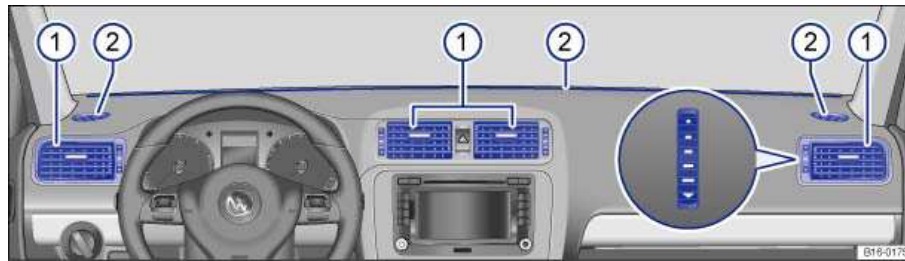

Fig. 132 In the instrument panel: Air vents.
To help ensure sufficient heating, cooling and ventilation in the passenger compartment, never close the air vents completely ⇒ fig. 132 (1).